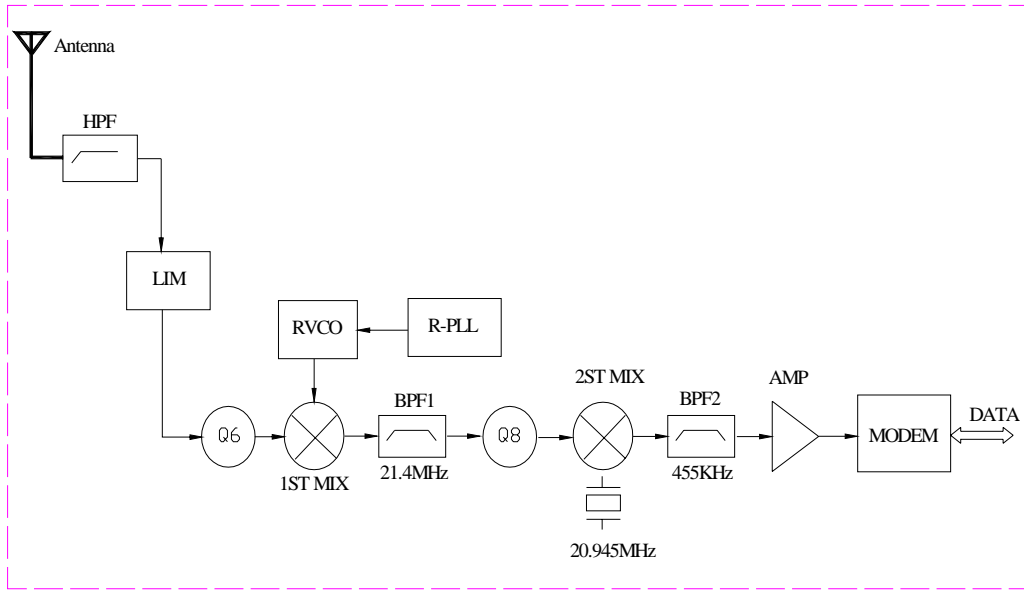

Fig.4
3) Receiver system is shown in Fig.4.